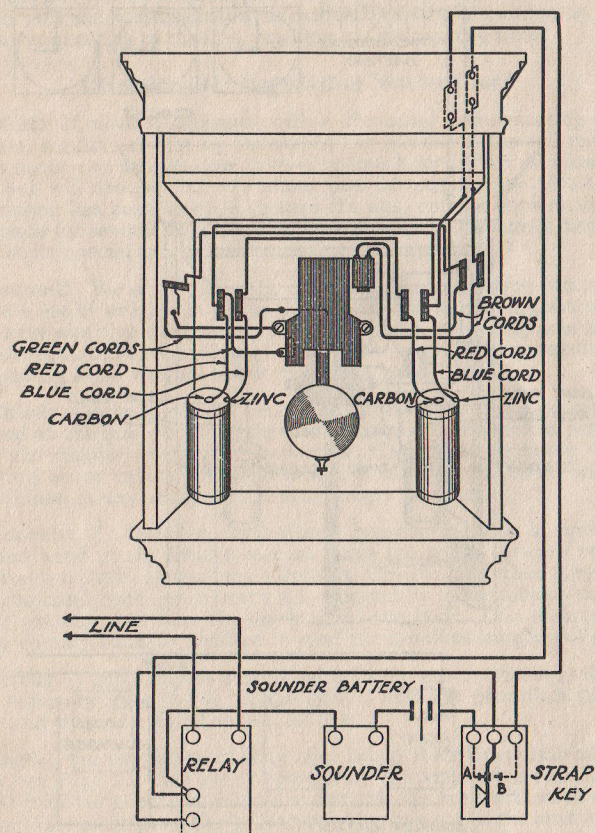

Fig 16.
These clocks are connected to the Morse wire as shown in Fig. 16. When the strap key is at contact point (A) the Morse wire is in circuit to receive the seconds beat from Washington.